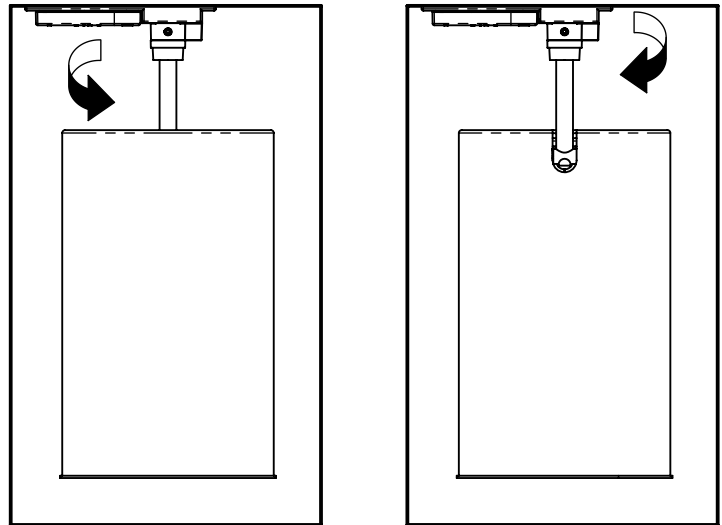

FIG 12. TURN FIXTURE LEFT OR RIGHT TO SET THE HORIZONTAL FOCUS
- *FOR HORIZONTAL AIMING*, HOLD THE LAMP HOUSING AND TURN IT LEFT OR RIGHT UNTIL YOU ACHIEVE YOUR DESIRED ORIENTATION (FIG. 12)